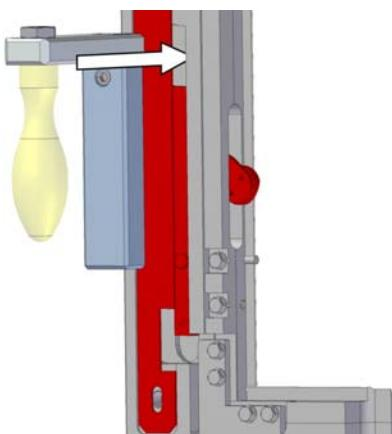

Fig. 6-4 *Lock the substrate holder*
- 1 Insert the unlocking tool in the recess between the locking mechanism and the frame carrier shown at Fig. 6-4, Fig. 159.